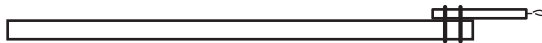

Figure 2. Igniting stick
- Prepare an igniting stick as shown in Figure 2. Attach a candle to the end of a long stick such as a meter stick, wood pointer, or dowel rod. Attach the candle to the stick using tape, plastic cinch ties, or rubber bands.